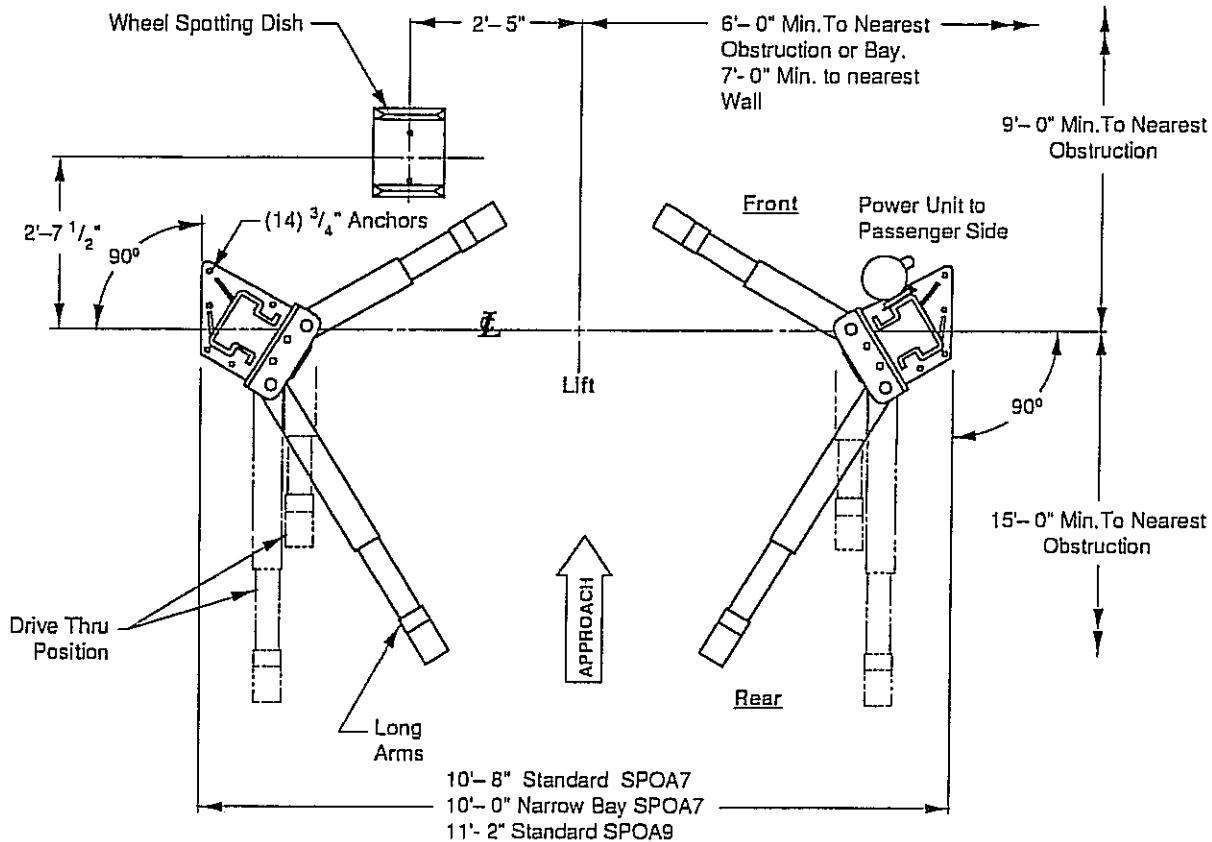

Fig. 1
- Lift Location:** Use architects plan when available to locate lift. Fig. 1. shows dimensions of a typical bay layout.
- Lift Setting:** Position columns in bay using dimensions shown in Fig. 1. Place column with power unit mounting bracket on vehicle passenger side of lift. Both column base plate backs must be square on center line of lift. Notches are cut into each base plate to indicate center line of lift. Manually raise carriage to first latch position.
A. Drilling existing floor: Drill (14) $\frac{3}{4}$ " dia. holes $4\frac{1}{2}$ " minimum depth in concrete floor using holes in column base plate as a guide, Fig. 1 & 2. A minimum hole spacing of $6\frac{1}{2}$ " from another lift or other equipment and a minimum edge distance of $4\frac{7}{8}$ " is suggested.